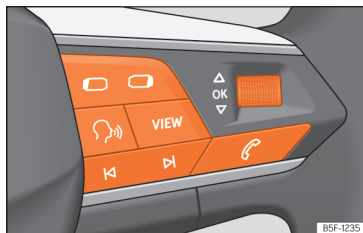

Fig. 13 Right side of multifunction steering wheel: buttons to the menus and informative indications on the instrument panel (depending on the version).
As long as a priority 1 >>> **page 26** warning is active, it will not be possible to access any menu. Some warnings can be confirmed and hidden with the button **OK** of the multifunction steering wheel >>> **Fig. 13**.
- If a message or vehicle symbol is displayed, press the button **OK** >>> **Fig. 13**; several times if necessary.